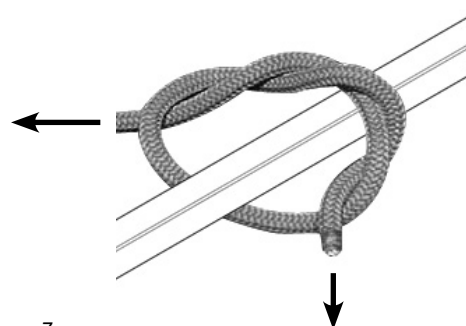

Figure 7
13. Tie one end of each of the provided 22' ropes to the platform side rails, just in front of the tree blade. **Be sure your double knots are secure. SEE FIGURE 7.**